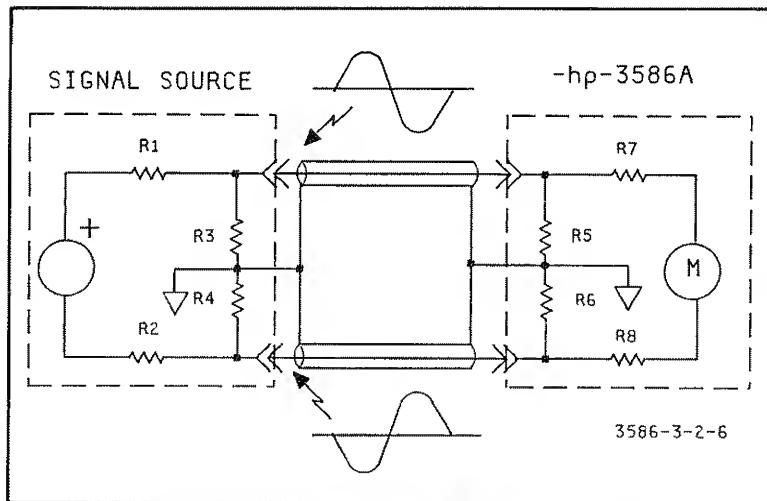

Figure 3-2-6. Balanced Measurement.
**3-2-31. Balanced Inputs.** Balanced circuits are those with two outputs which are electrically identical and symmetrical with respect to ground. The balanced inputs on the -hp- 3586A permit the outputs of balanced signal sources to be measured without disturbing their relationship to ground. A balanced measurement is illustrated in Figure 3-2-6. Balanced measurements are not nearly as susceptible to ground loop problems as are terminated measurements. Ground loop voltages tend to be identical on both inputs, so they are canceled by the common mode rejection characteristics of the instrument.